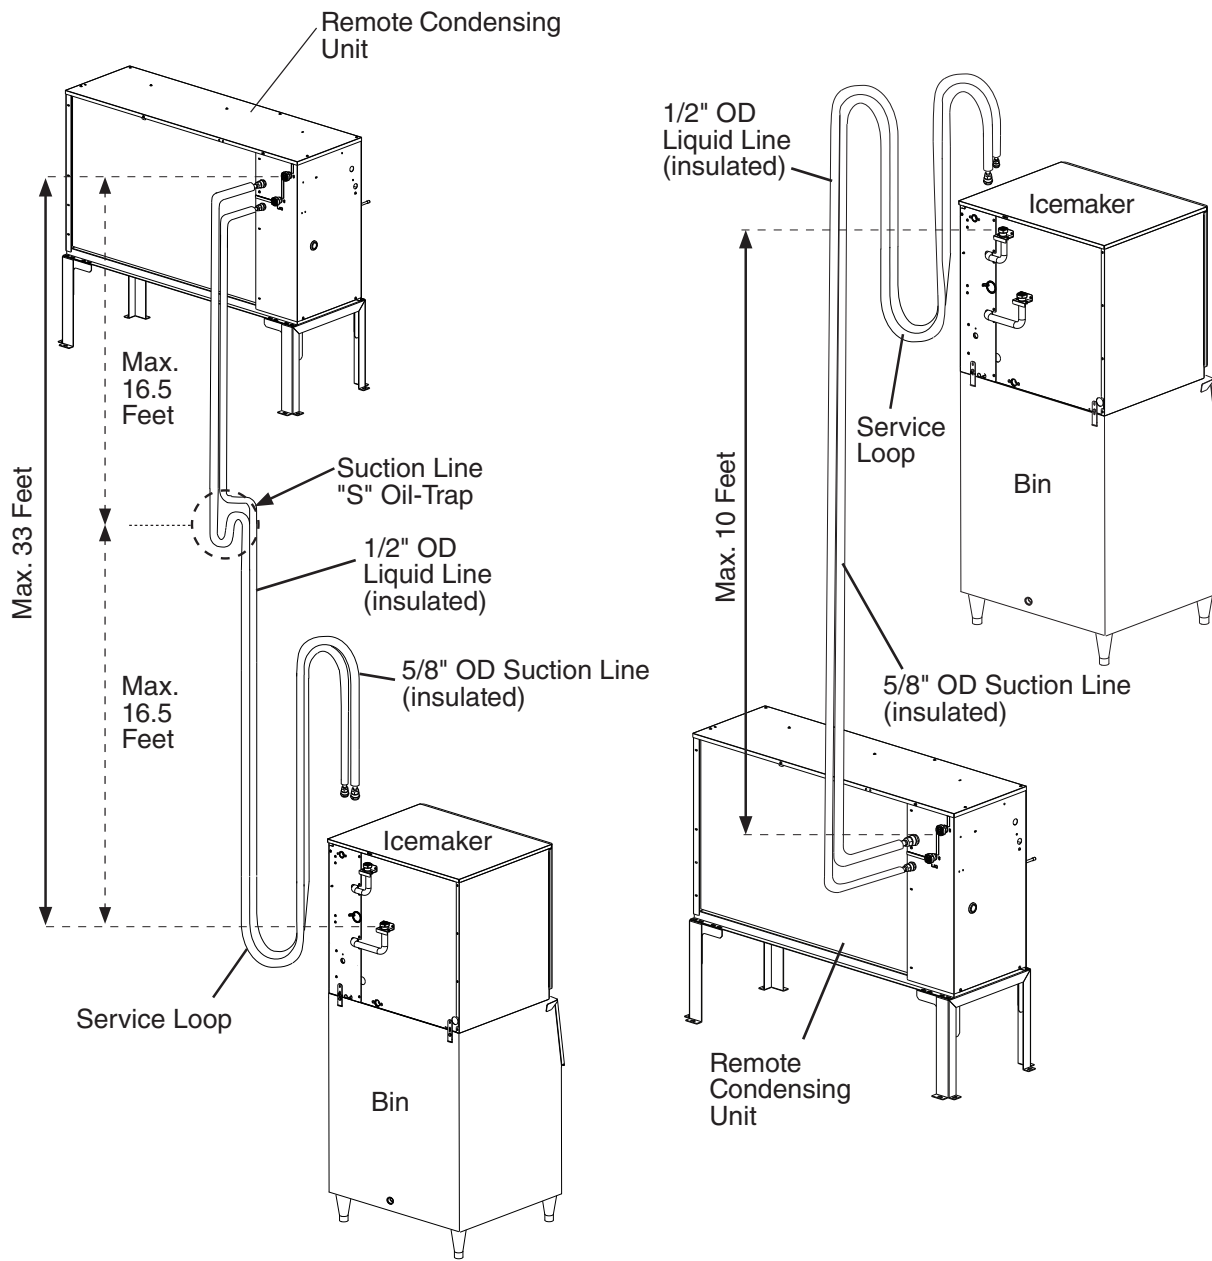

Fig. 14
- The maximum vertical distance between the remote condensing unit and icemaker is 33 feet above or 10 feet below the icemaker. These distances are measured fitting to fitting. See Fig. 14. **NOTICE! Do not exceed maximum vertical distance.**
- 1) Route the factory line set (5/8" OD suction line and 1/2" OD liquid line) from the remote condensing unit to the icemaker. Leave a service loop behind the icemaker to allow the icemaker to be pulled out for service. See Fig. 14. Factory fabricated line sets are precharged and do not need to be evacuated. If the line set is too long or too short, see "II.E.2.a)(1) Factory Line Set Modification."
- 1) Route a 5/8" OD copper tube suction line and a 1/2" OD copper tube liquid line between the remote condensing unit and the icemaker. Leave a service loop behind the icemaker to allow the icemaker to be pulled out for service. See Fig. 14.